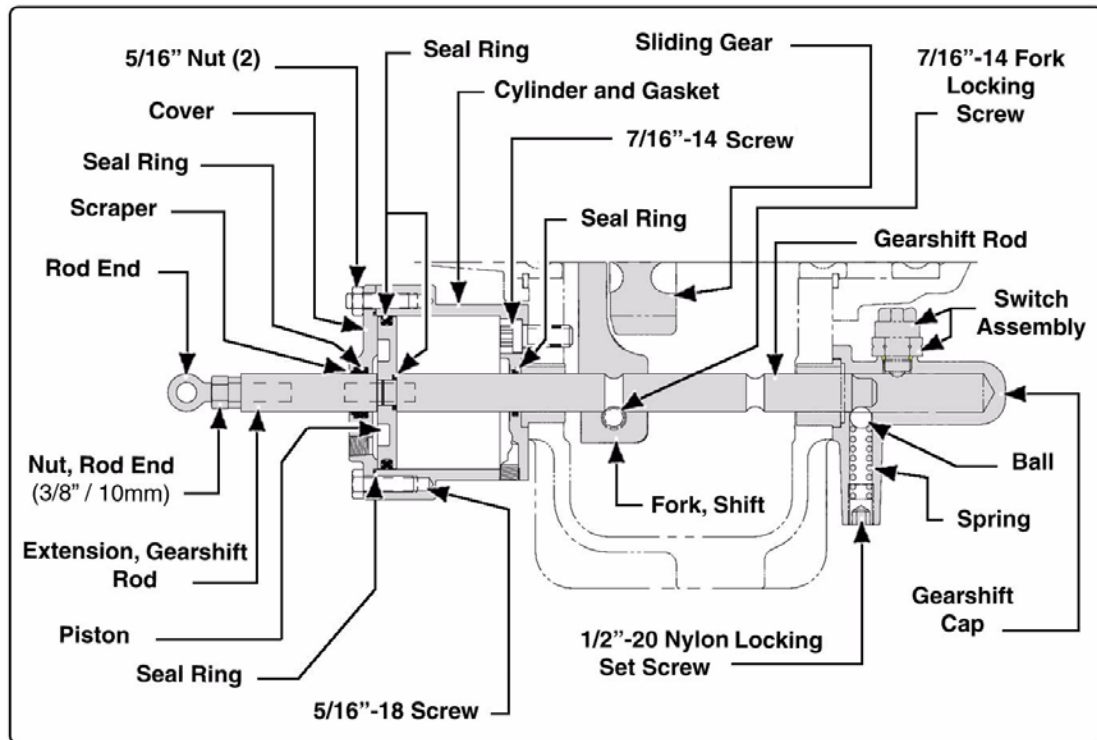

Figure 9-3: Power Gearshift Assembly
(See Figure 9-3: "Power Gearshift Assembly" on page 152.)
6. Make a note of the location of the fork in relation to the gearshift shaft before removing the fork. (See Figure 9-3: “Power Gearshift Assembly” on page 152.)
- Electrical switches from the gearshift cap - see Figure 9-3: “Power Gearshift Assembly” on page 152.
(See Figure 9-3: “Power Gearshift Assembly” on page 152.)
10. Install a new shifting cylinder gasket. (See Figure 9-3: “Power Gearshift Assembly” on page 152.)
14. Install a new piston outer seal ring. (See Figure 9-3: "Power Gearshift Assembly" on page 152.)